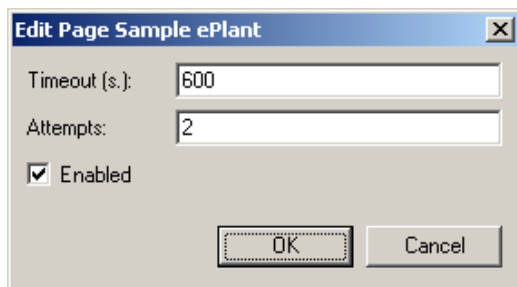

Figure 117. Edit Destination Dialog Box
12. Click **Edit** and the Edit Destination dialog box shown in Figure 117 appears.